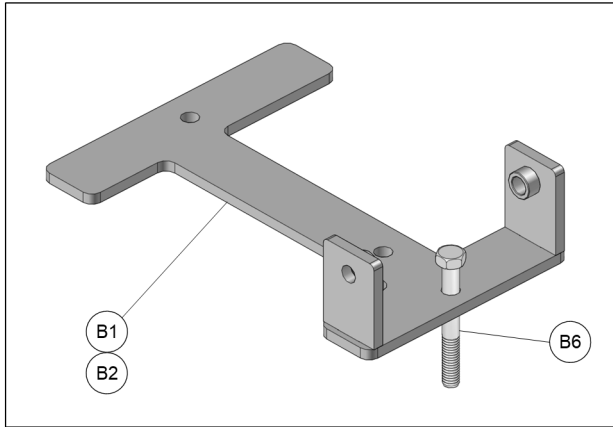

Fig. 4
- Insert the provided M10x80mm bolt (**B6**) in the rear anchor bracket (**B1-B2**), as shown in Fig. 4